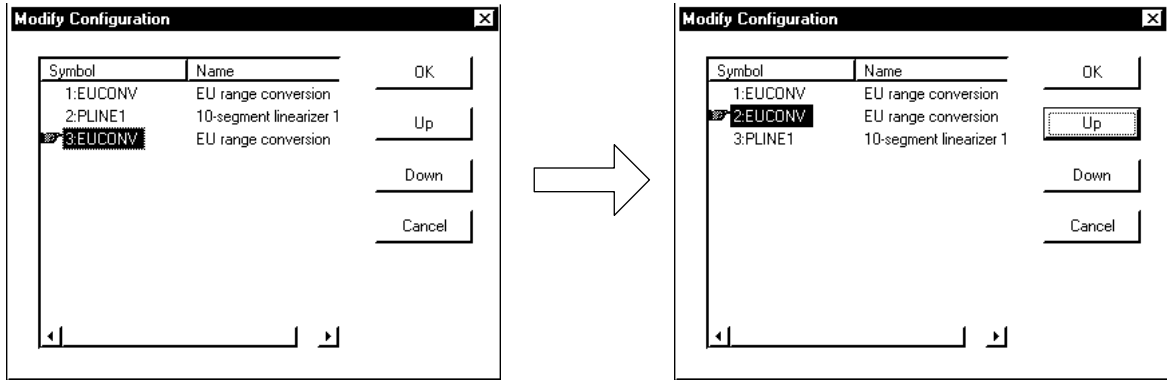

Figure 6.1.5 [Modify Configuration] Dialog Box
- ① With the [Input Block] or [Output Block] dialog box shown, click the computation module, and choose <Editing> from the tool menus, and then <Modify Configuration>, from the Editing menu. The [Modify Configuration] dialog box (Figure 6.1.5) appears. This dialog box lists the preregistered computation modules in their order of execution.